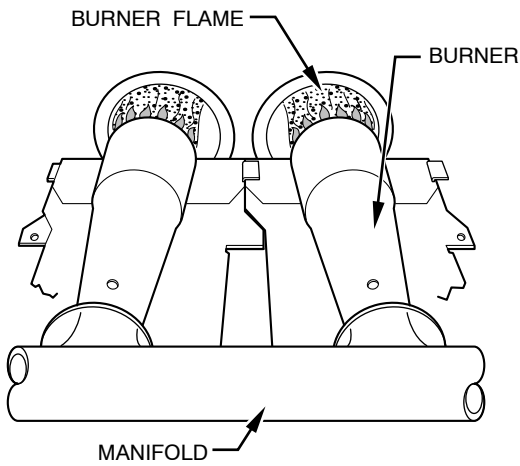

Fig. 11 - Burner Flame
- Check furnace operation through 2 complete heat operating cycles. Look through sight glass in burner enclosure to check burners. Burner flames should be clear blue, almost transparent. (See Fig. 11.)